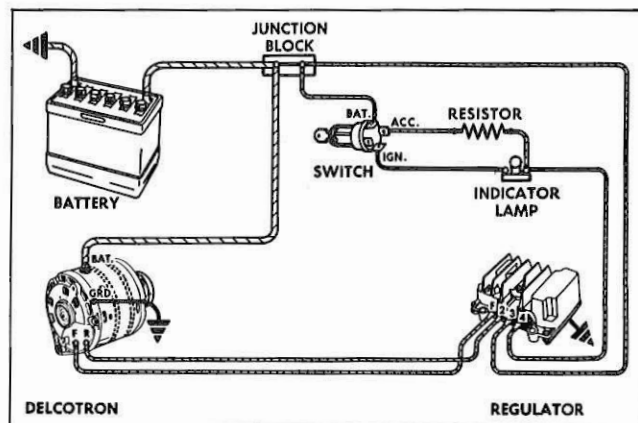

Fig. 52—Charging System Schematic
pre-set value by controlling the generator field current. This is the only function that the regulator performs in the charging circuit. The addition of the field relay unit provides: (1) a common four terminal connector unit on this regulator, (2) a method of providing initial generator field excitation thru an indicator lamp at the dashboard, and (3) a short route excitation circuit which also provides a method of turning out the indicator lamp. Figure 52 shows the regulator in the charging system. Test procedures are covered fully in the Chassis Service Manual.